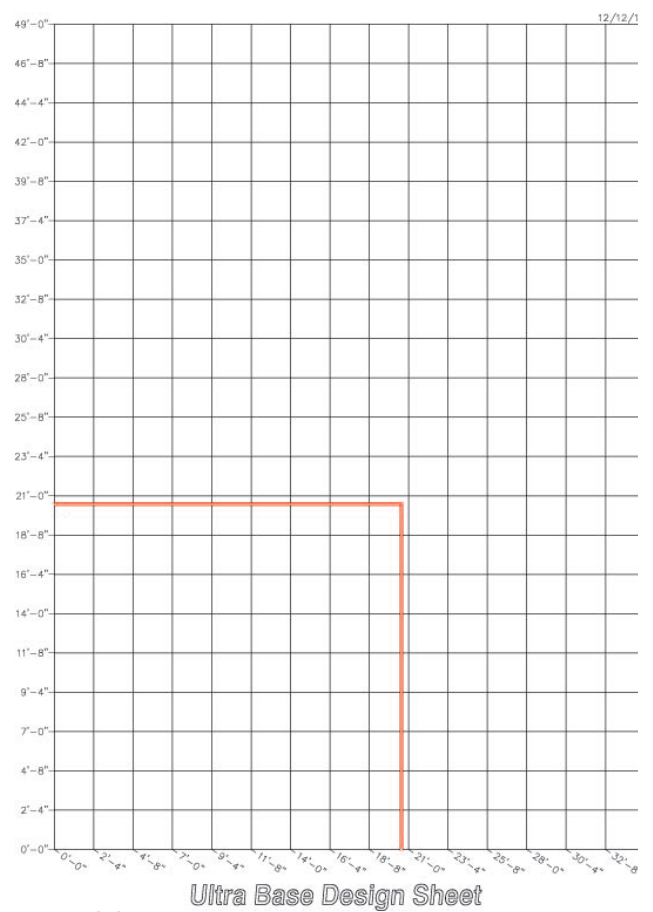

Figure 2.2
- Box off the area and the inside will be your workspace. (Figure 2.2)